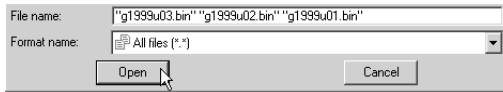

Figure 3-65. Open Window
3. Select the desired *.bin file in *Open* dialog box and click **Open** (Figure 3-65).